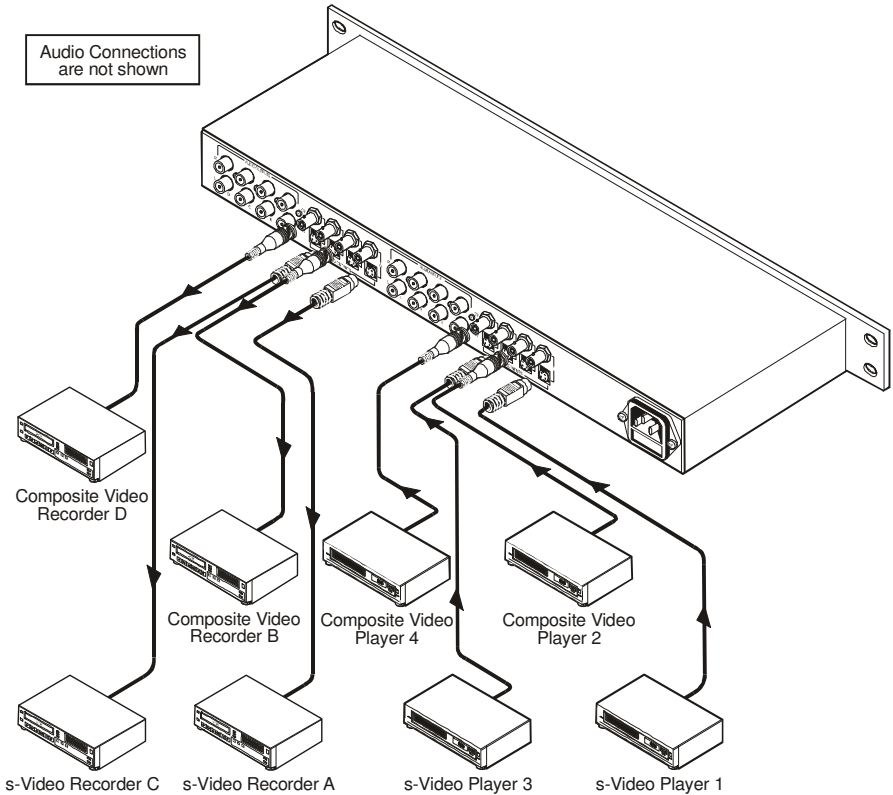

Figure 2: Connecting the VS-6YC s-Video 4x4 Matrix Switcher
To connect the **VS-6YC** *s-Video 4x4 Matrix Switcher*, as the example in Figure 2 illustrates¹, do the following²:
- Up to four unbalanced stereo audio sources to the L and R AUDIO INPUTS RCA connectors (not shown in Figure 2)
- The L and R AUDIO OUTPUTS RCA connector (not shown in Figure 2) to up to four unbalanced stereo audio acceptors (for example, audio amplifiers)
3. Connect the power cord (not shown in Figure 2).